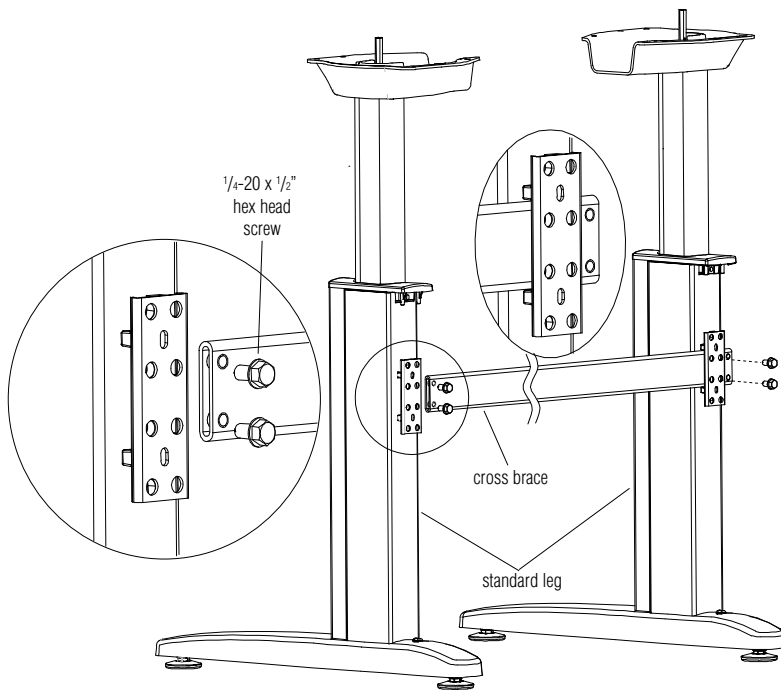

Figure 9 - 2 Leg Table
2. **For 2 leg tables**, slide the cross brace (Figure 9) or wire trough into the opening between the back of the leg and the bracket. Attach to each standard leg on the inside set of holes using two 1/4"-20 x 1/2" hex head screws.